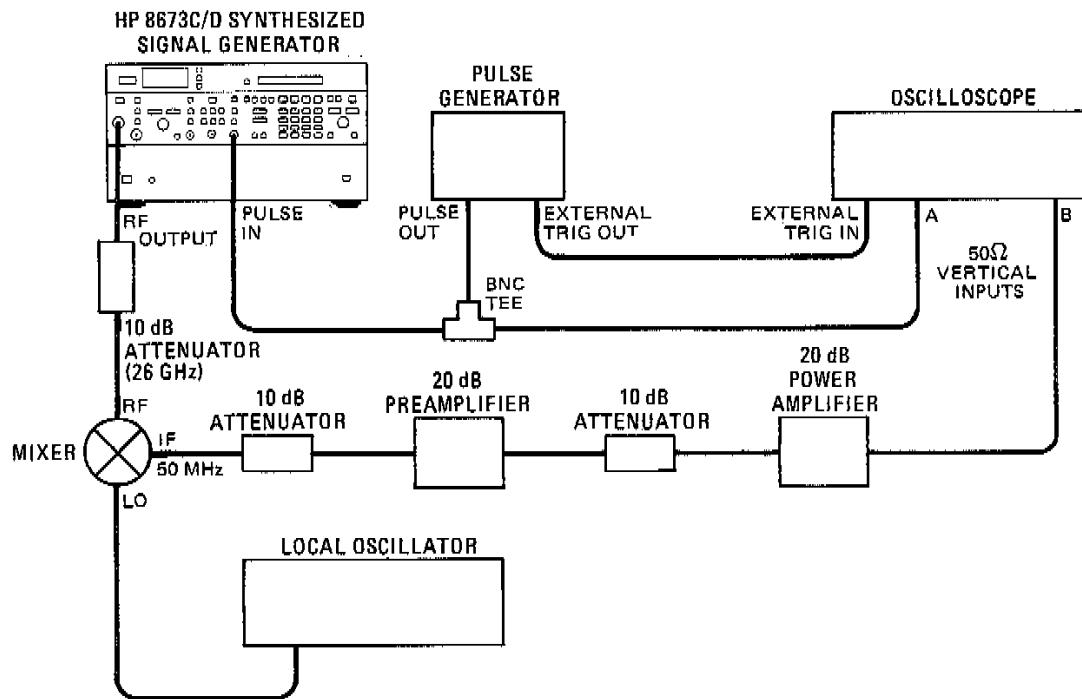

Figure 4-9. High Frequency Pulse Test Setup
15. Connect equipment as shown Figure 4-9.